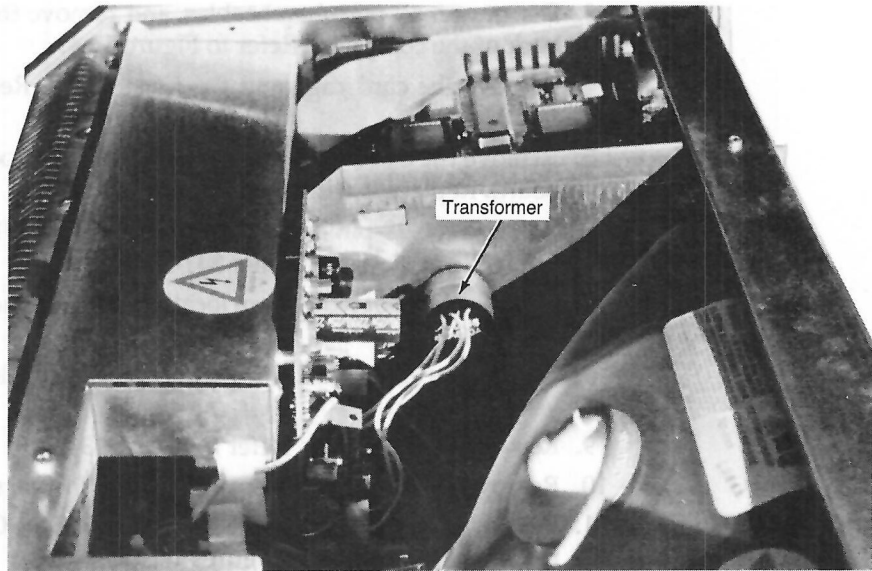

Figure 13-33 The new transformer attaches to the outer wall of the disk-drive chamber with double-sided tape.
14. The new transformer attaches to the outer wall of the disk-drive chamber with double-sided tape. Clean the area, and attach the transformer as shown in Figure 13-33.